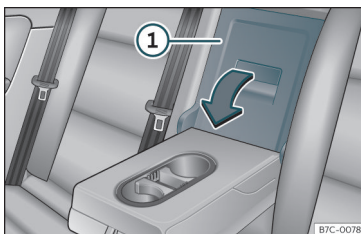

Fig. 120 In the rear seat backrest: opening the trapdoor.
- Pull the release lever in the direction of the arrow and push the tailboard cover >>> **Fig. 120**  down and forwards.